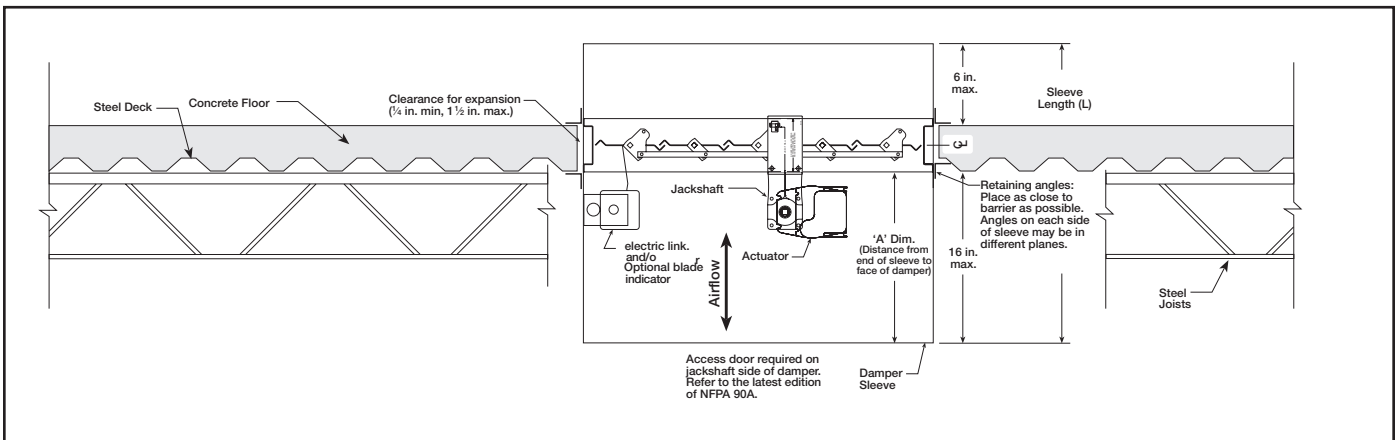

Figure 1: Damper installed in concrete floor with steel deck.
2. Installation of the bottom retaining angle against the uneven steel deck shall be done such that the angles on each side of the sleeve are as close to the barrier as possible. In other words, the angles on each side of the sleeve may be in different planes relative to each other (see Figure 1 and 2).